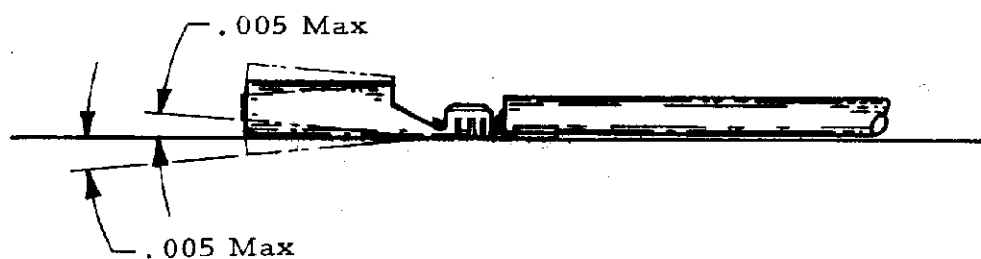

Figure 4
- C. Contact shall not be bent above or below the datum line more than the amount shown in Figure 4.